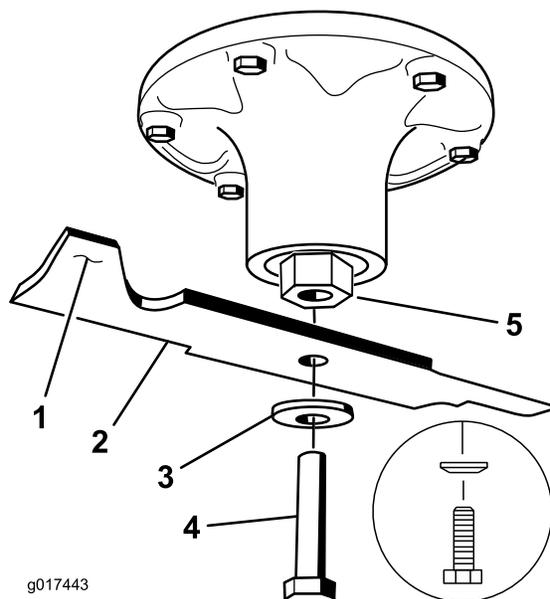

Figure 91
2. Remove the blade bolt, curved washer, and blade from the spindle shaft (Figure 91).
1. Install the blade onto the spindle shaft (Figure 91).
2. Install the curved washer and blade bolt (Figure 91).